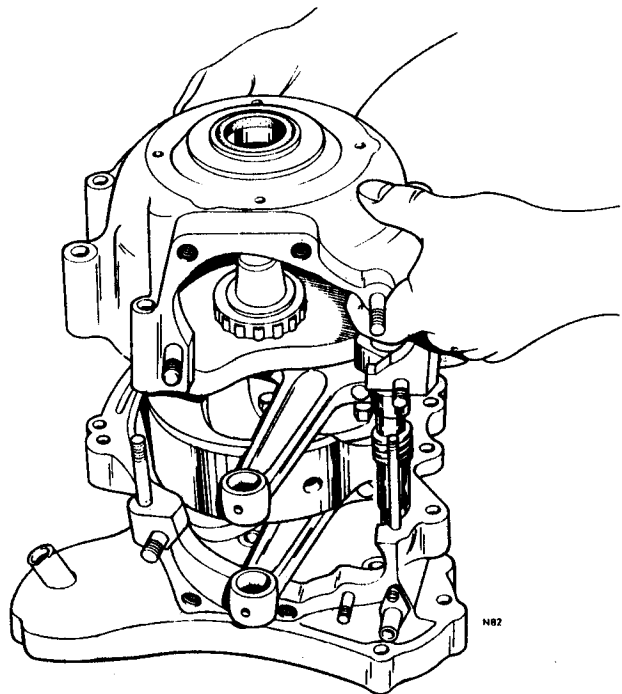

Fig. C36 Mating crankcases.
- 4 Offer the drive side crankcase to the timing side after oiling the camshaft bearing area and the drive side roller main bearing. The operation of mating the crankcases is shown in *Fig. C36*. It is most important that the drive side connecting rod does not come into contact with the crankcase mouth and at the final stage of mating the crankcases, it may well be necessary to turn the tachometer drive to locate into the camshaft worm drive.